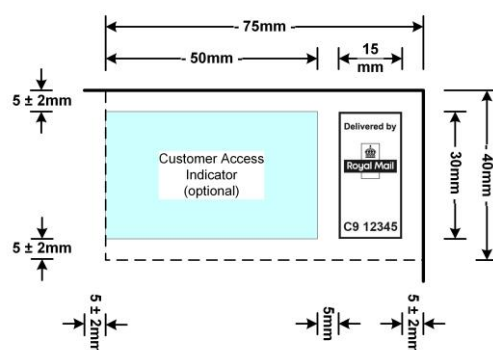

Figure 3: Indicia positioning and size (large)
- An example of the Royal Mail Access Indicator is shown below at Figures 3 and 4 demonstrating the characteristics and positioning requirements when applying a large or small Royal Mail Access Indicator. Our Website also provides details of the mandatory print and design specifications for the two sizes available and positioning requirements of the Royal Mail Access Indicator on all Mailing Items. A copy of the actual Indicium template, which you must comply with, will be available to you (once your Credit Account has been set up) to download from the Website. You must get our written approval for all designs and subsequent design changes. We require at least two months' written notice of design proposals prior to any requested implementation date. You may not use any designs before we have given you our written approval. This notice period allows us to carry out technical testing and other approval procedures.
- The Customer Access Indicator is optional for you to use on Mailing Items but there are design and location constraints. Figures 3 and 4 below demonstrate the size and positioning requirements when using either a large or small Customer Access Indicator.